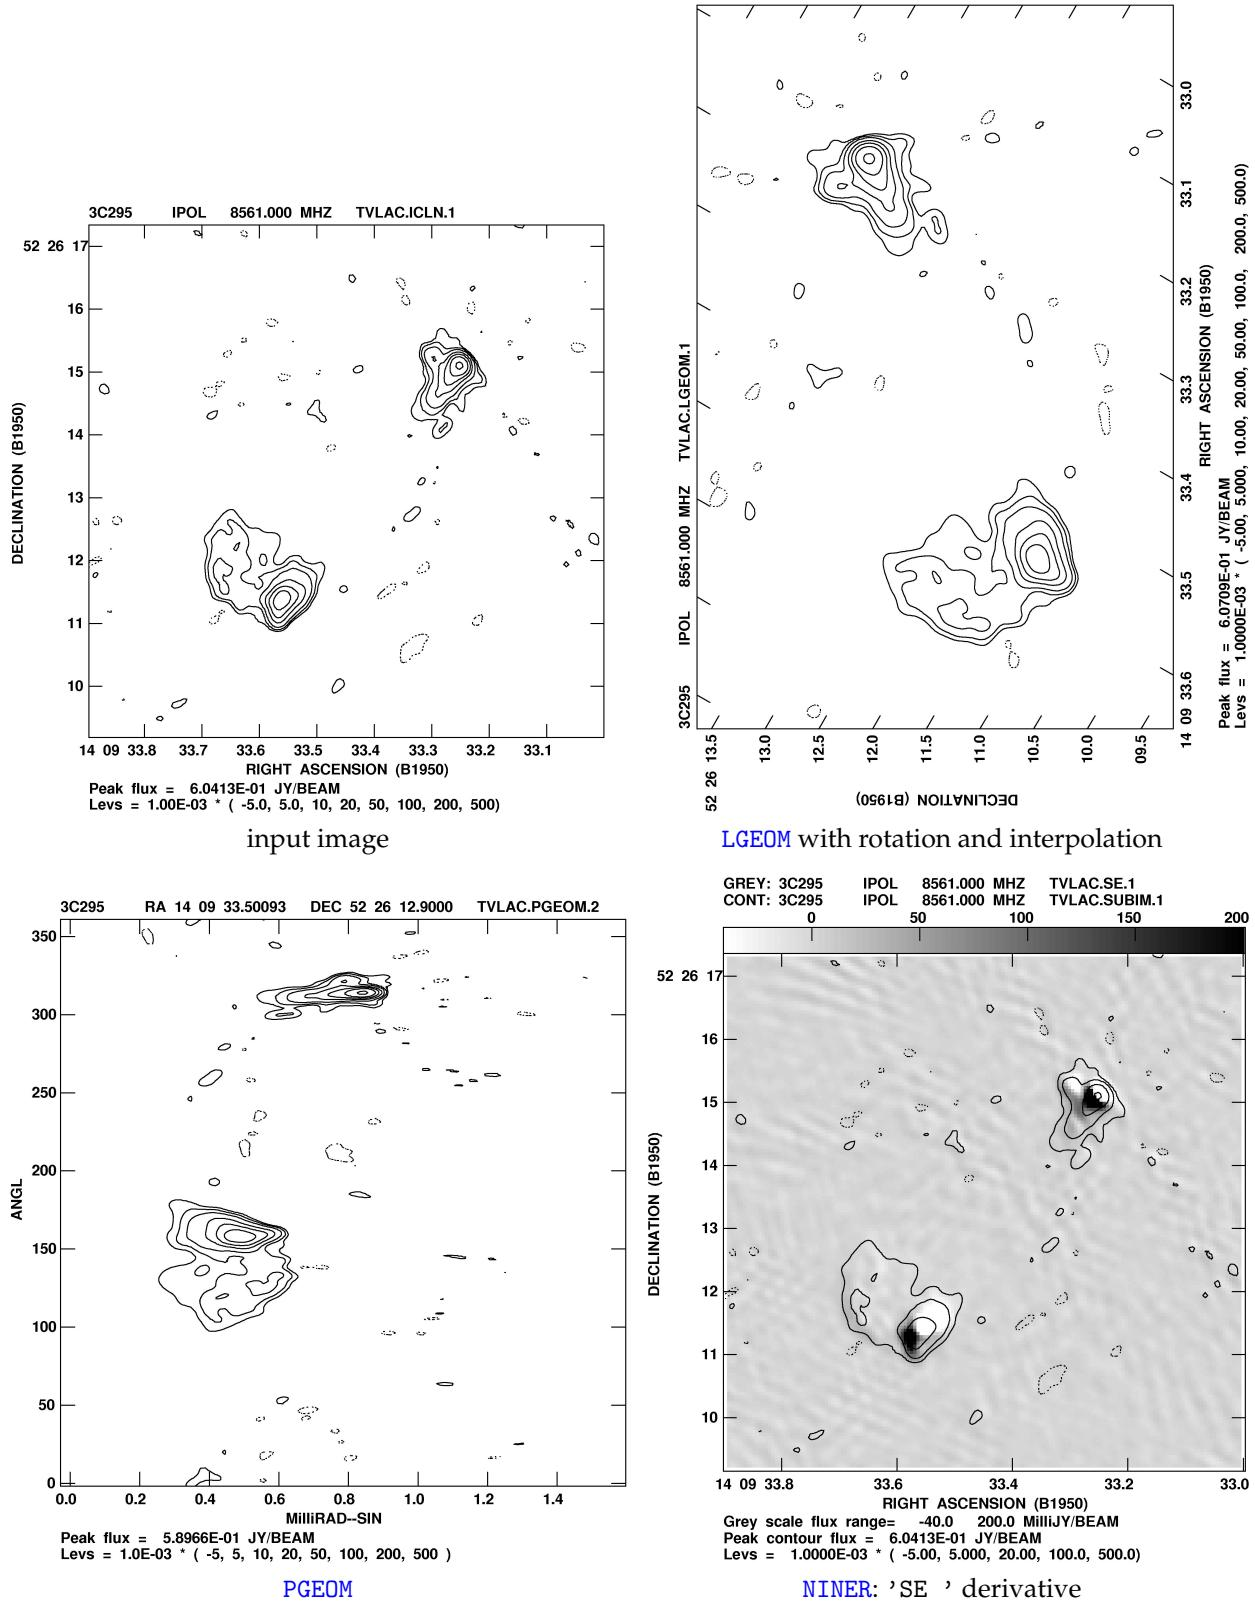

Figure 7.1: Geometric and other functions on an image.
A potentially very powerful transformation is performed by **PGEOM**. In its basic mode, it converts between rectangular and polar coordinates. An example of this operation is illustrated in Figure 7.1. However, **PGEOM** can also “de-project” elliptical objects to correct for their inclination and “unwrap” spiral objects. Type **EXPLAIN PGEOM**  $C_R$  for information.
**NINER** produces an image by applying an operator to each cell of an image and its 8 nearest cells. The task offers three nonlinear operators which enhance edges (regions of high gradient in any direction). It also offers linear convolutions with a  $3 \times 3$  kernel which can be provided by the user or chosen from a variety of built-in kernels. Among the latter are kernels to enhance point sources and kernels to measure gradients in any of 8 directions. The 'SOBL' edge-enhancement filter can bring out jets, wisps, and points in the data, while the gradient convolutions produce images which resemble a landscape viewed from above with illumination at some glancing angle (as when viewing the Moon). Both are very effective when displayed on the TV or by the **KNTR** / **LWPLA** combination (see Figure 7.1). Enter **EXPLAIN NINER**  $C_R$  for additional information.